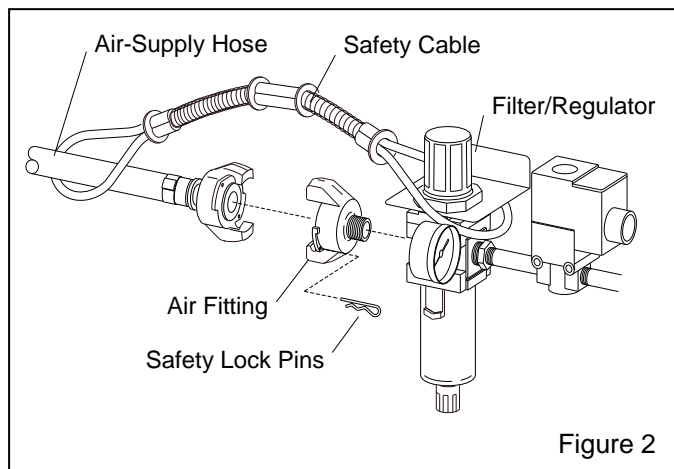

Figure 2
**2.2.1** Refer to Figure 2 and apply thread sealant to the male threads of an air fitting that is compatible with the air-supply hose fitting, and install it onto the 3/8" NPT air filter/regulator located on the side of the cabinet. The style of connection shown in Figure 2 is for reference only. The air line may also be hard piped.
**2.2.2** Connect a 1/2" ID or larger air line from the air source to the air fitting, as shown in Figure 2.